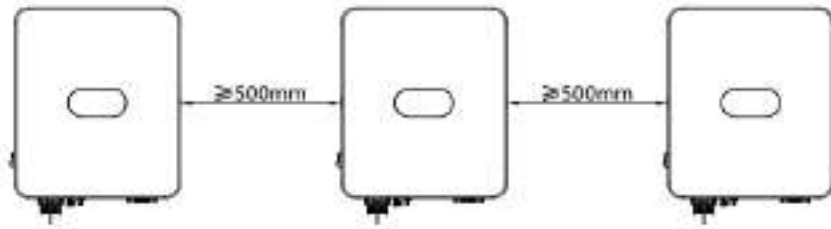

Fig. 4-5 Installation Dimension of Side-by-side Inverters
(3) To install more than one inverter, please keep a certain distance between the inverters and at the top/bottom of the inverters (see Fig. 4-5), so as to facilitate heat dissipation.